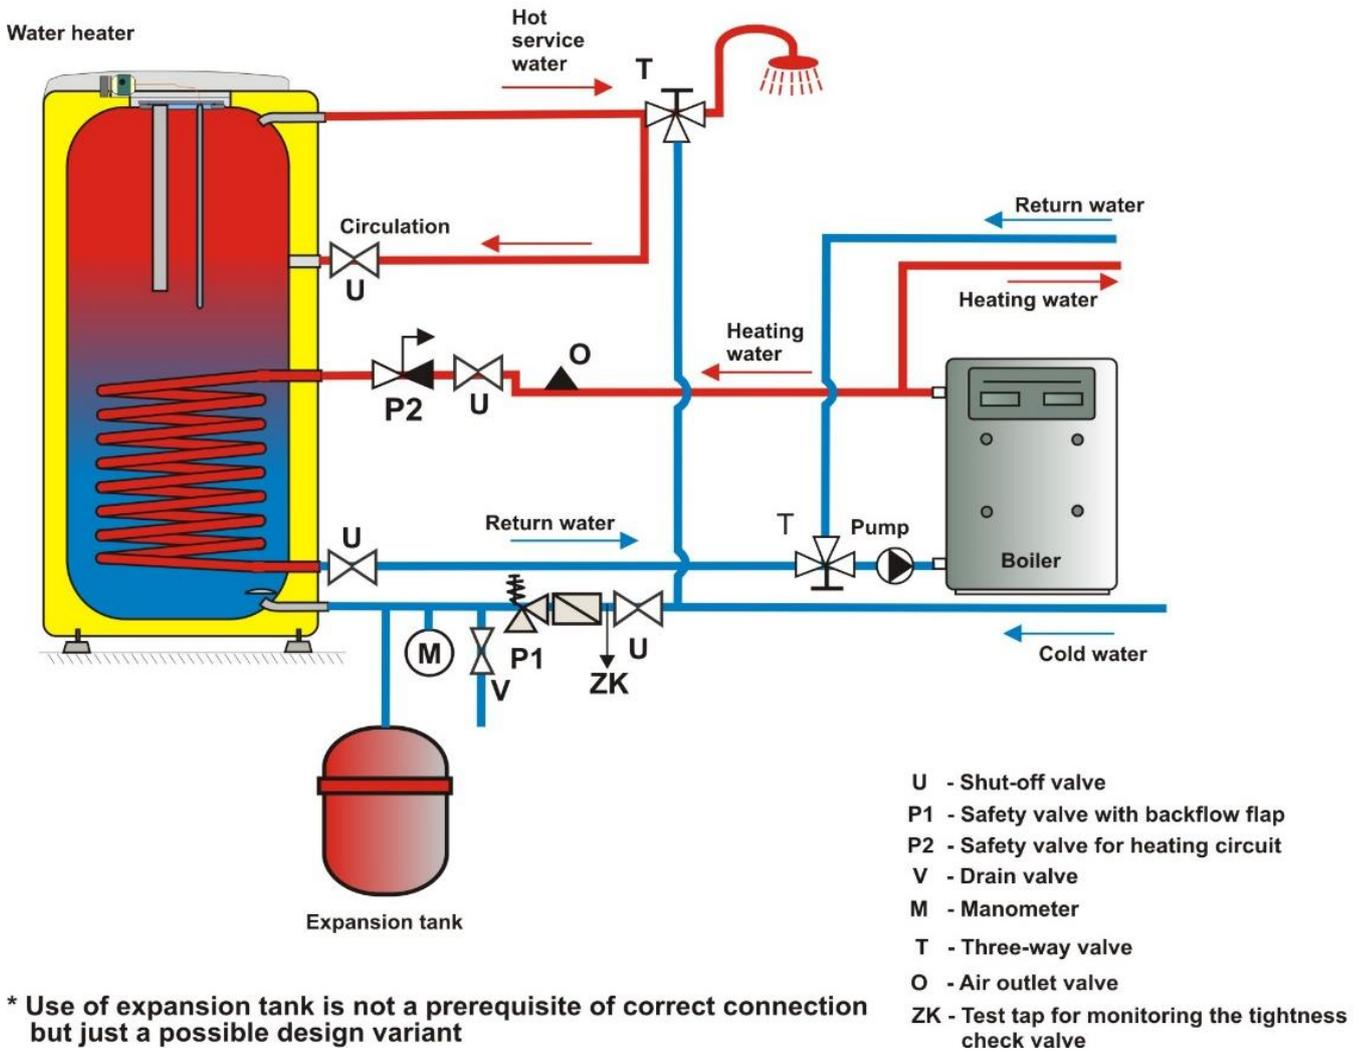
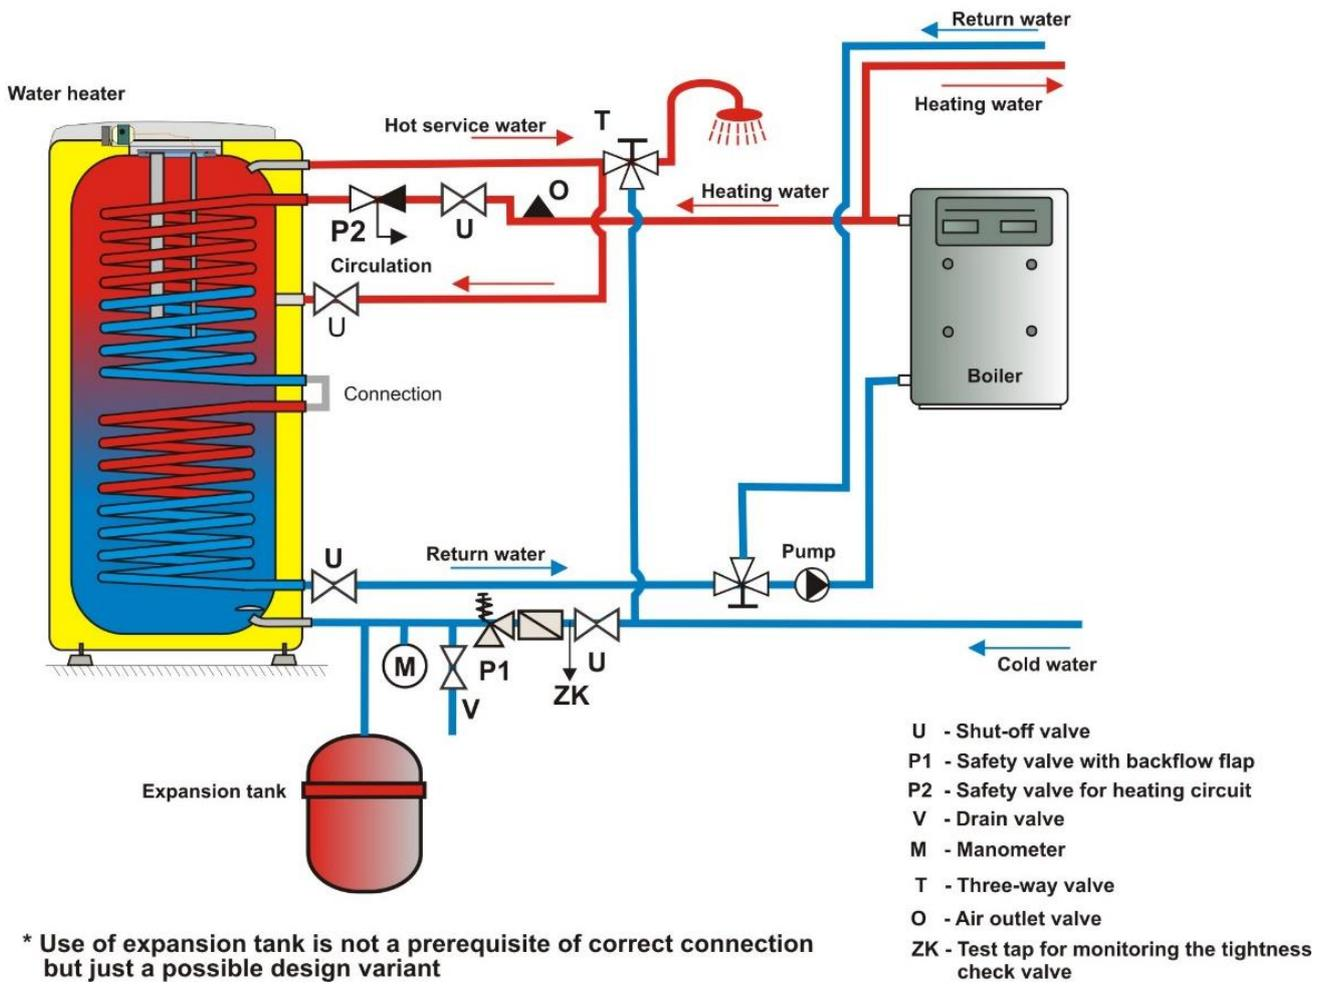
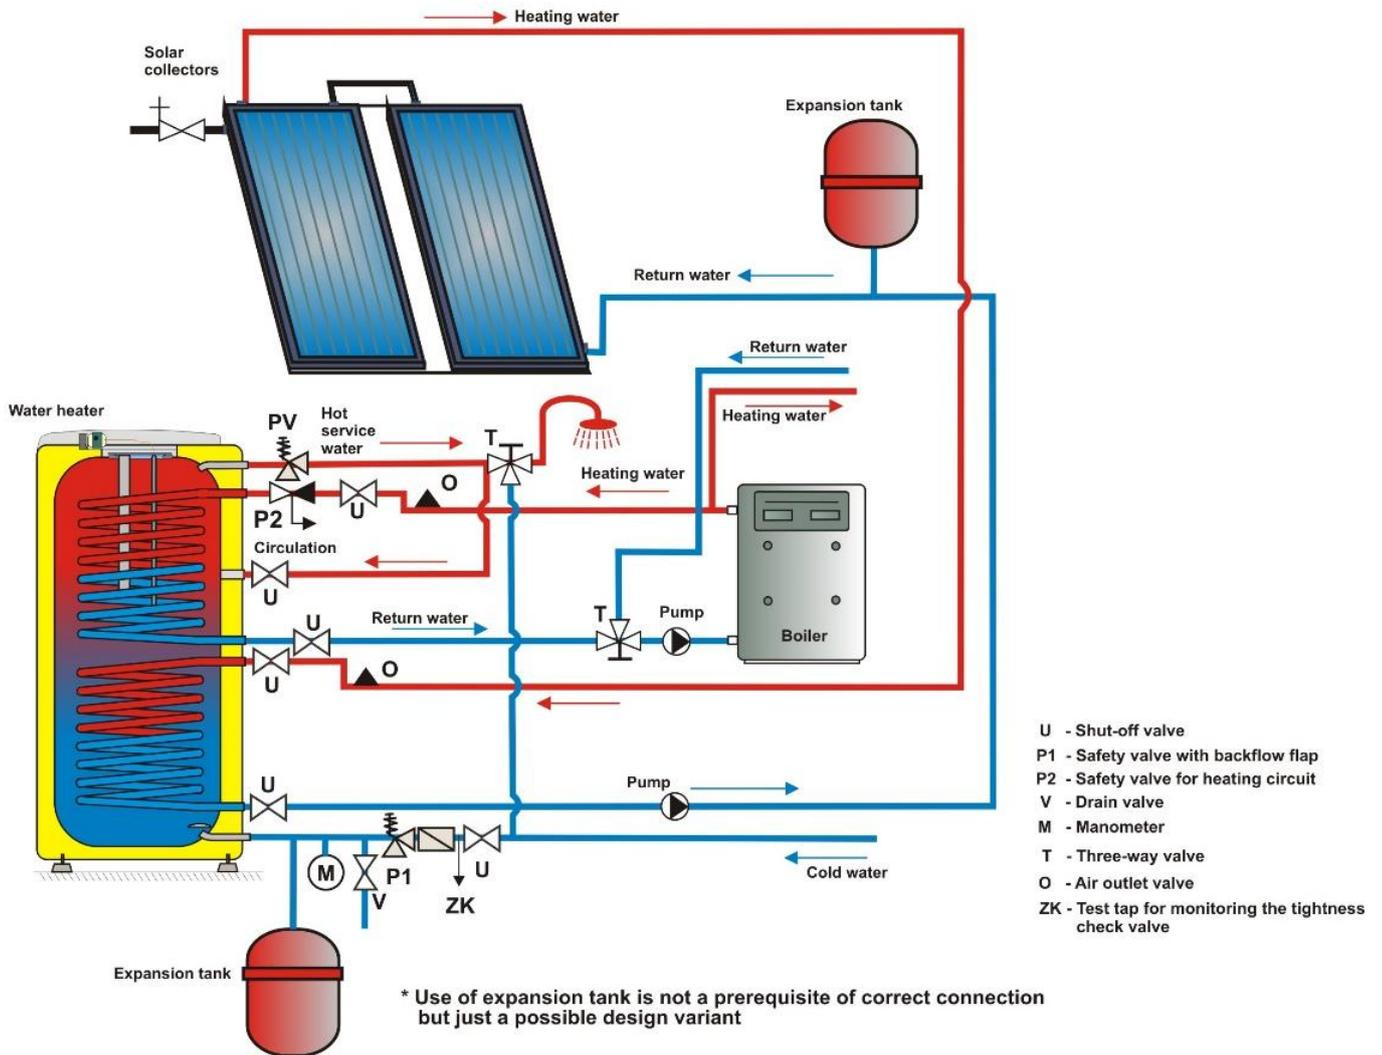
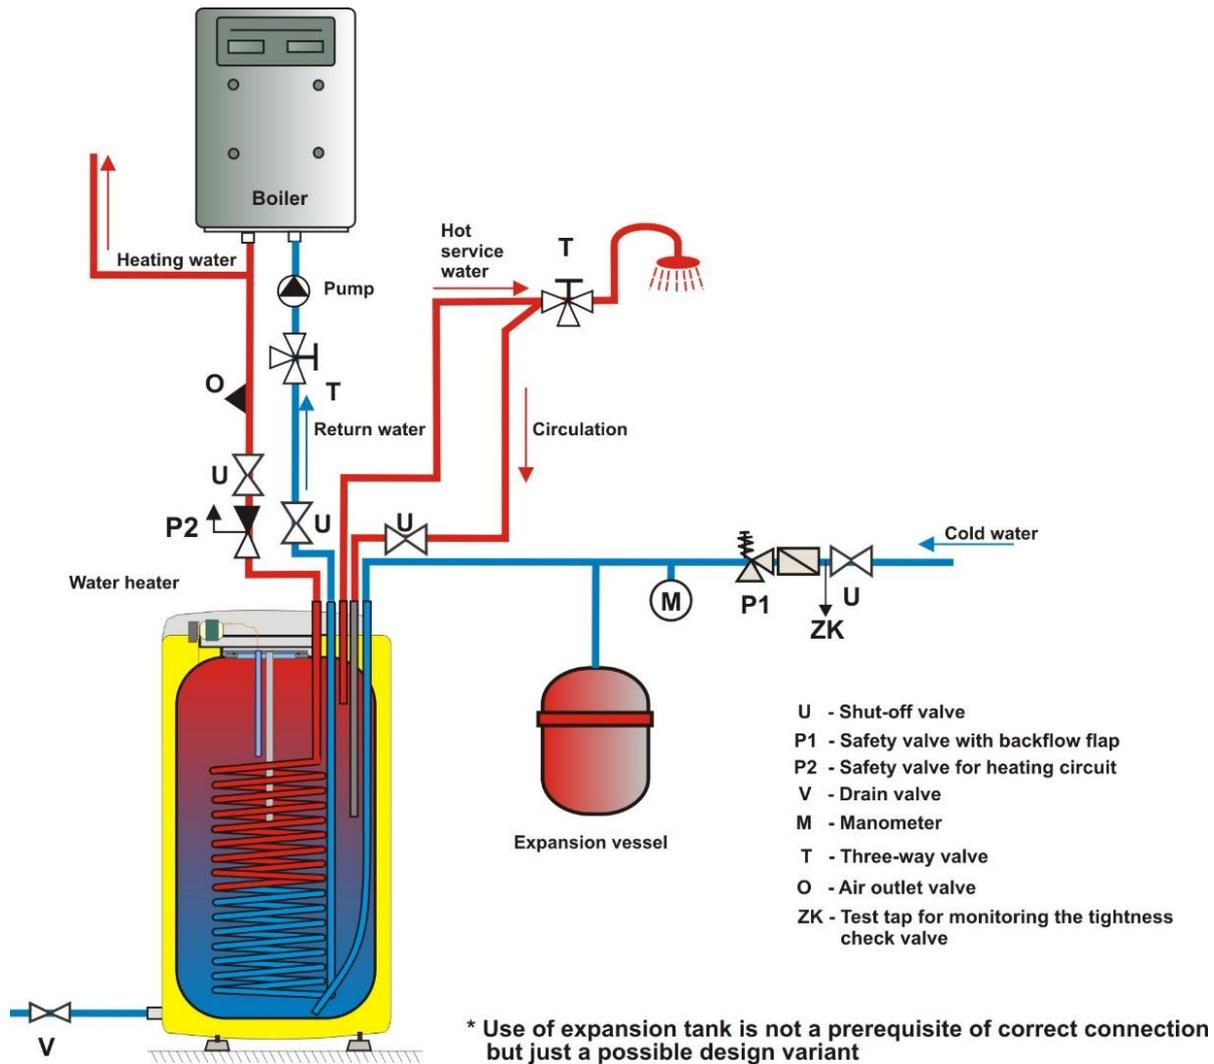

Figure 8
Figure 9
Figure 10
Figure 11
Connecting tanks to plumbing fixtures is shown in (Figure 7, Figure 8, Figure 9, Figure 10, Figure 11). For potential disconnection of the tank, utility water inlets and outlets must be provided with Js 3/4" screw coupling. If the hot utility water (HUW) distribution is equipped with circulation circuit, the reverse pipe is connected to the inlet identified as CIRCULATION. Types 100, 125, 160 NTR and 100, 125, 160 NTR / HV are equipped with a drain outlet. A "T" plumbing with a drain valve has to be mounted in type 200 and NTR(R) on the HSW inlet. The tank shall be equipped with a safety valve to ensure the operation. The safety valve is mounted on the cold water inlet identified with a blue ring. We recommend that the hot water distribution from the heater was as short as possible to minimize heat losses. Tanks must be provided with a discharge valve mounted on the cold service water inlet into the heater for potential disassembly or repair.